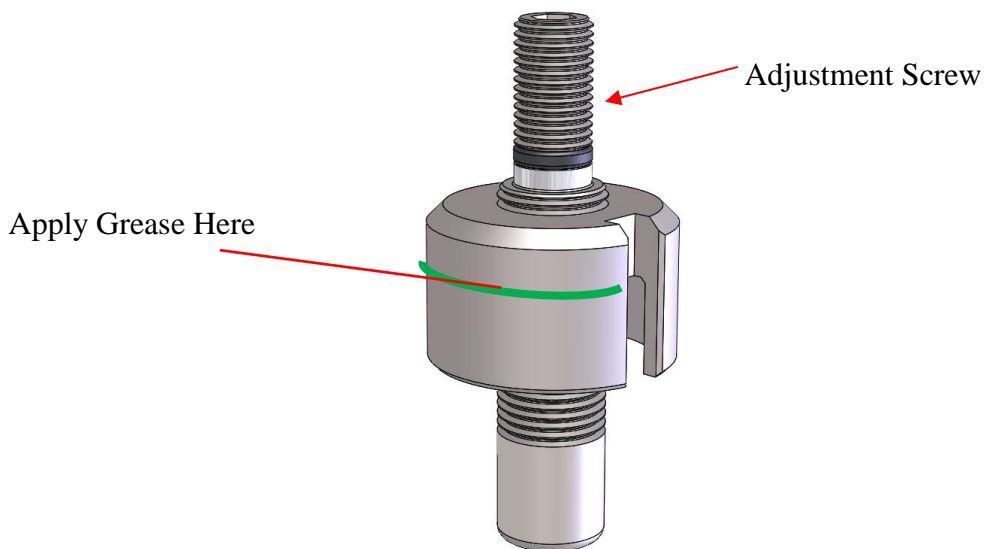

Figure 27: Inner Bonnet Components
15. Thread the adjustment bushing onto the adjustment screw. This has left handed threads. Screw the adjustment bushing down onto the adjustment screw until approximately 2 threads of the adjustment screw are visible from the top. See Figure 27.
16. Lightly lubricate the outer surface of the adjustment bushing. See Figure 27.